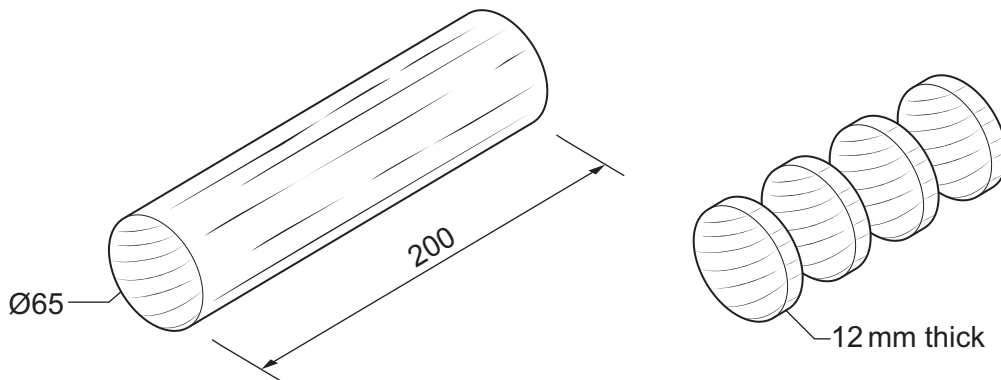

Fig. 11.3
- (d) Fig. 11.3 shows a length of hardwood that has been 'turned' on a woodturning lathe to produce the four wheels for the toy bus.